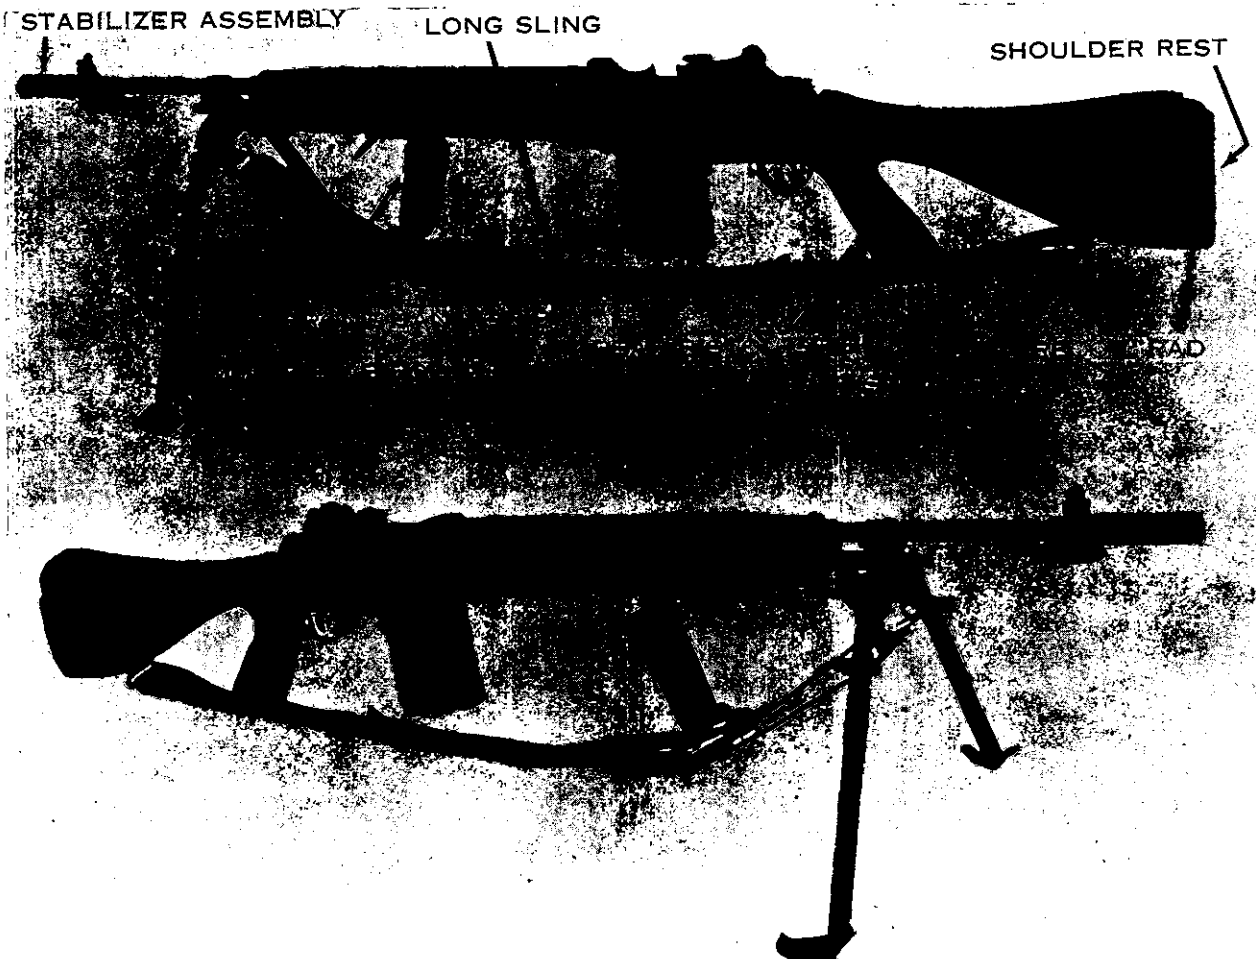

Figure 3. The M14E2 rifle (top—left side view; bottom—right side view).
- (1) The U.S. rifle, 7.62mm, M14E2 (fig. 3) is an air-cooled, gas-operated, magazine-fed, shoulder weapon. It is capable of semiautomatic or automatic fire; however, it is designed primarily for automatic fire. It features a stabilizer assembly, modified bipod, front and rear handgrip, straight line stock, and a rubber recoil pad.
- (2) The M14E2 stock group is the "straight line" type with a fixed rear handgrip and a folding front handgrip which lies flat along the bottom of the stock when not in use. The location of the front handgrip can be adjusted to one of five positions in 1-inch increments to accommodate all gunners. The rubber recoil pad reduces the effects of recoil. The hinged shoulder rest provides vertical control of the butt end of the rifle. The butt swivel pivots 90° to the left for ease of carrying.
- (3) The stabilizer assembly consists of a perforated steel sleeve which slides over the flash suppressor and is fastened to the muzzle over the bayonet lug by a screw and a locknut. The stabilizer provides muzzle stability and reduces recoil.
- (4) The M2 bipod is modified by the addition of a sling swivel and a longer pivot pin to accommodate the swivel.
- (5) The M14E2 utilizes a sling with an extra hook assembly. The portion of the sling between the handgrip and the bipod provides additional muzzle control during firing. The portion of the sling between the front handgrip and the bipod allows